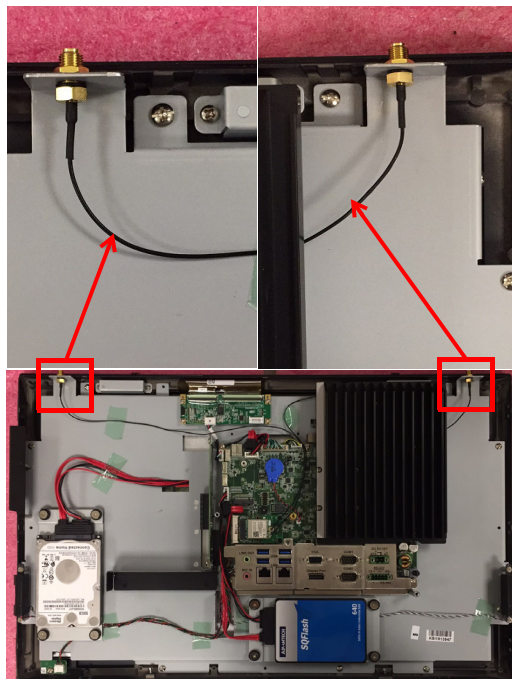

Figure 2.18
2. Connect the wireless LAN card module cable to the antenna bracket, please note the installation direction of cable end and screws/cushions. (See Fig 2.18)